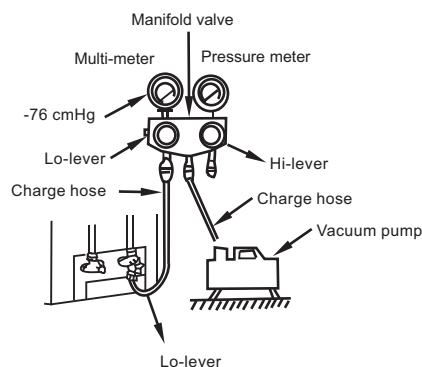

Fig. 7-4
■ Expel the air with a vacuum pump (Refer to Fig. 7-4) (Please refer to its manual for the way of using manifold valve)